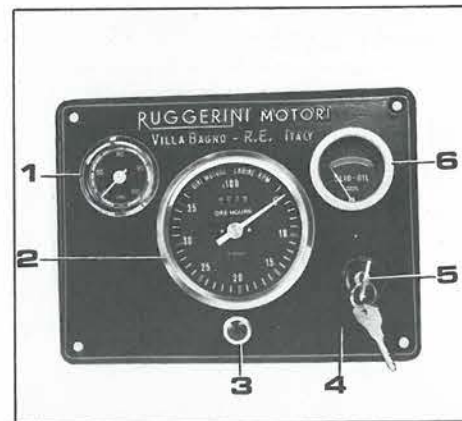
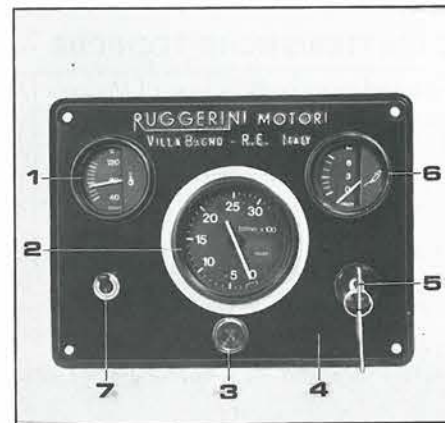

Fig. 3
Fig. 4
2.2 Cruscotto con strument. meccanica (fig. 3) o elett. (fig. 4)
2.2 Dashboard with mechanical (fig. 3) or electrical instruments (fig. 4)